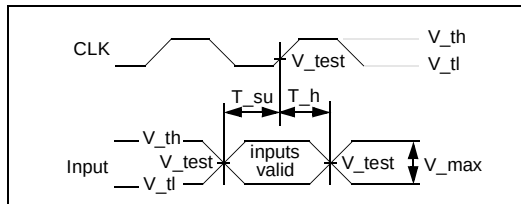

Figure 1-5. PCI Input Timing Measurement Conditions
- See the timing measurement conditions in Figure 1-5.